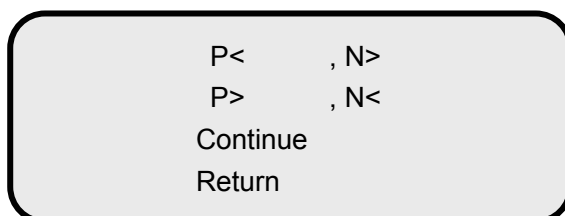

Fig. 12: Invalidity Judgment
2. The first type is set as default. If it is equal to the demand, press **Enter** key to go to the sub menu (Fig. 12). **C.O.** is the abbreviation for Cut-off value;
become \leftarrow and press **Enter** key. Then select the second judgment method by the key of \leftarrow and press **Enter** key to confirm. Press **Enter** key again to enter the interface of invalidity judgment (Fig. 12).